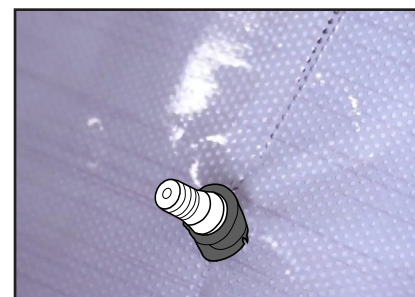

Figure 09
› Make a small opening in the compound with the cutter to allow the wiper motor shaft to pass through. (FIG. 09)
- › Start removing the paper liner from the compound, from the top centre of the compound as shown in the adjacent illustration. (FIG. 09)